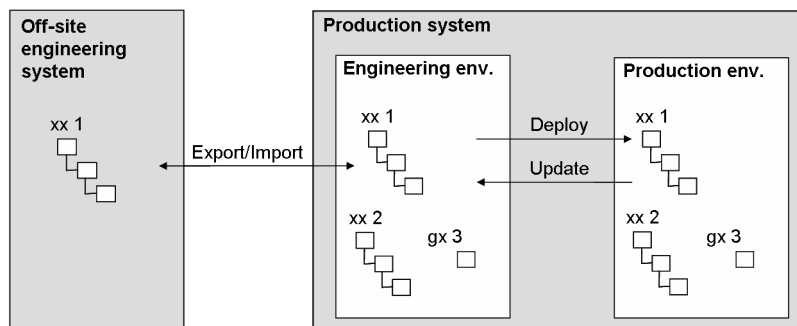

Figure 8. Conceptual view of a System Setup
2. In the detailed engineering phase / software test, of an automation project the engineering environment can be used as an integration environment for the changes coming in from other engineering systems to integrate for example graphics and control logic configuration (Figure 8).